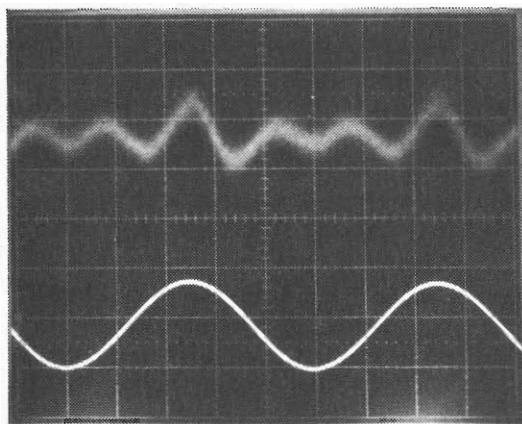

Fig. D-1: 100HZ DISTORTION RESIDUAL, LIN RELEASE
- b) Set the oscillator frequency to 100Hz, and advance the oscillator output level until the 424A G/R meter reads 20dB G/R. Measure the THD at the 424A output, and verify that it is less than 0.03%. Observe the distortion output from the THD analyzer on a scope, and verify that the distortion residual looks like Fig. D-1. Suppress the oscillator output, and verify that the time required for the G/R meter to move from 20dB to 10dB G/R is 2.0seconds,  $\pm$ 0.5seconds.